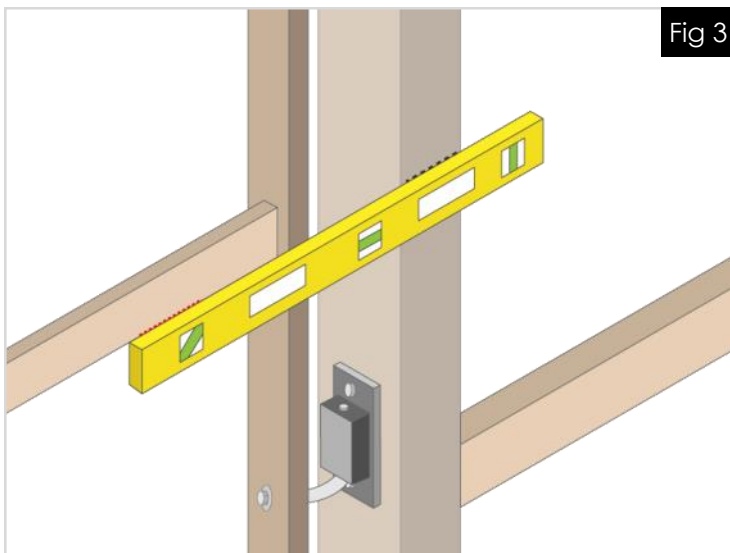

Fig 3
5) Utilizing a level, mark a line on the post that is level with the bottom of the horizontal cross member. [See Fig. 3]